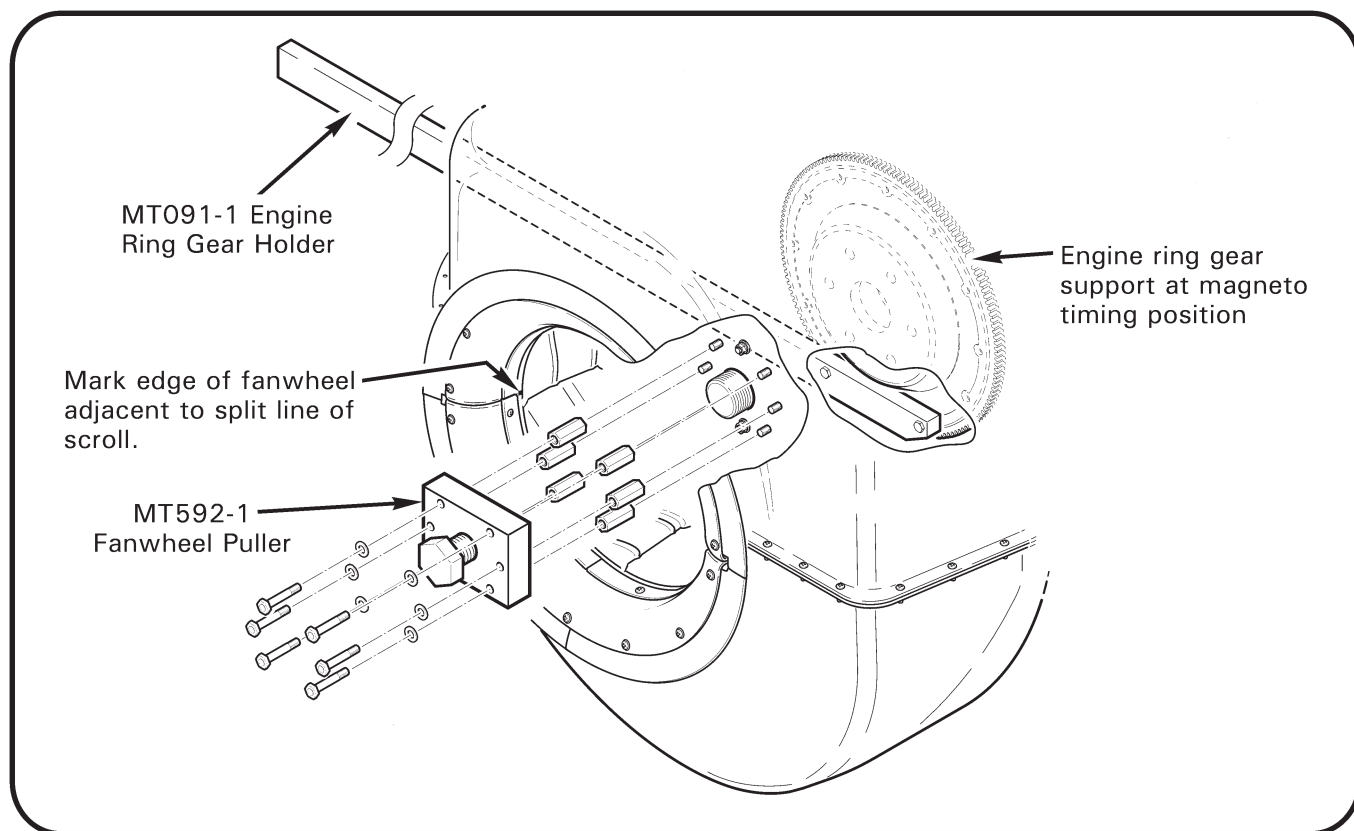

FIGURE 6-4 FANWHEEL PULLER INSTALLATION
If same fanwheel will be reinstalled then orient starter ring gear support to magneto timing position and mark fanwheel at split line of scroll; this will minimize need for new balance weights. See Figure 6-4.
9. Back out MT592-1 fanwheel puller's center bolt, lubricate bolt tip & threads with A257-9 anti-seize, and attach puller to the MT092-3 spacers (see Figure 6-4).
10. An air- or electric-impact wrench may be used to tighten fanwheel puller's center bolt & unseat fanwheel. Alternately, securely attach MT091-1 starter ring gear holding tool and immobilize tool so ring gear remains stationary (see Figure 6-4).